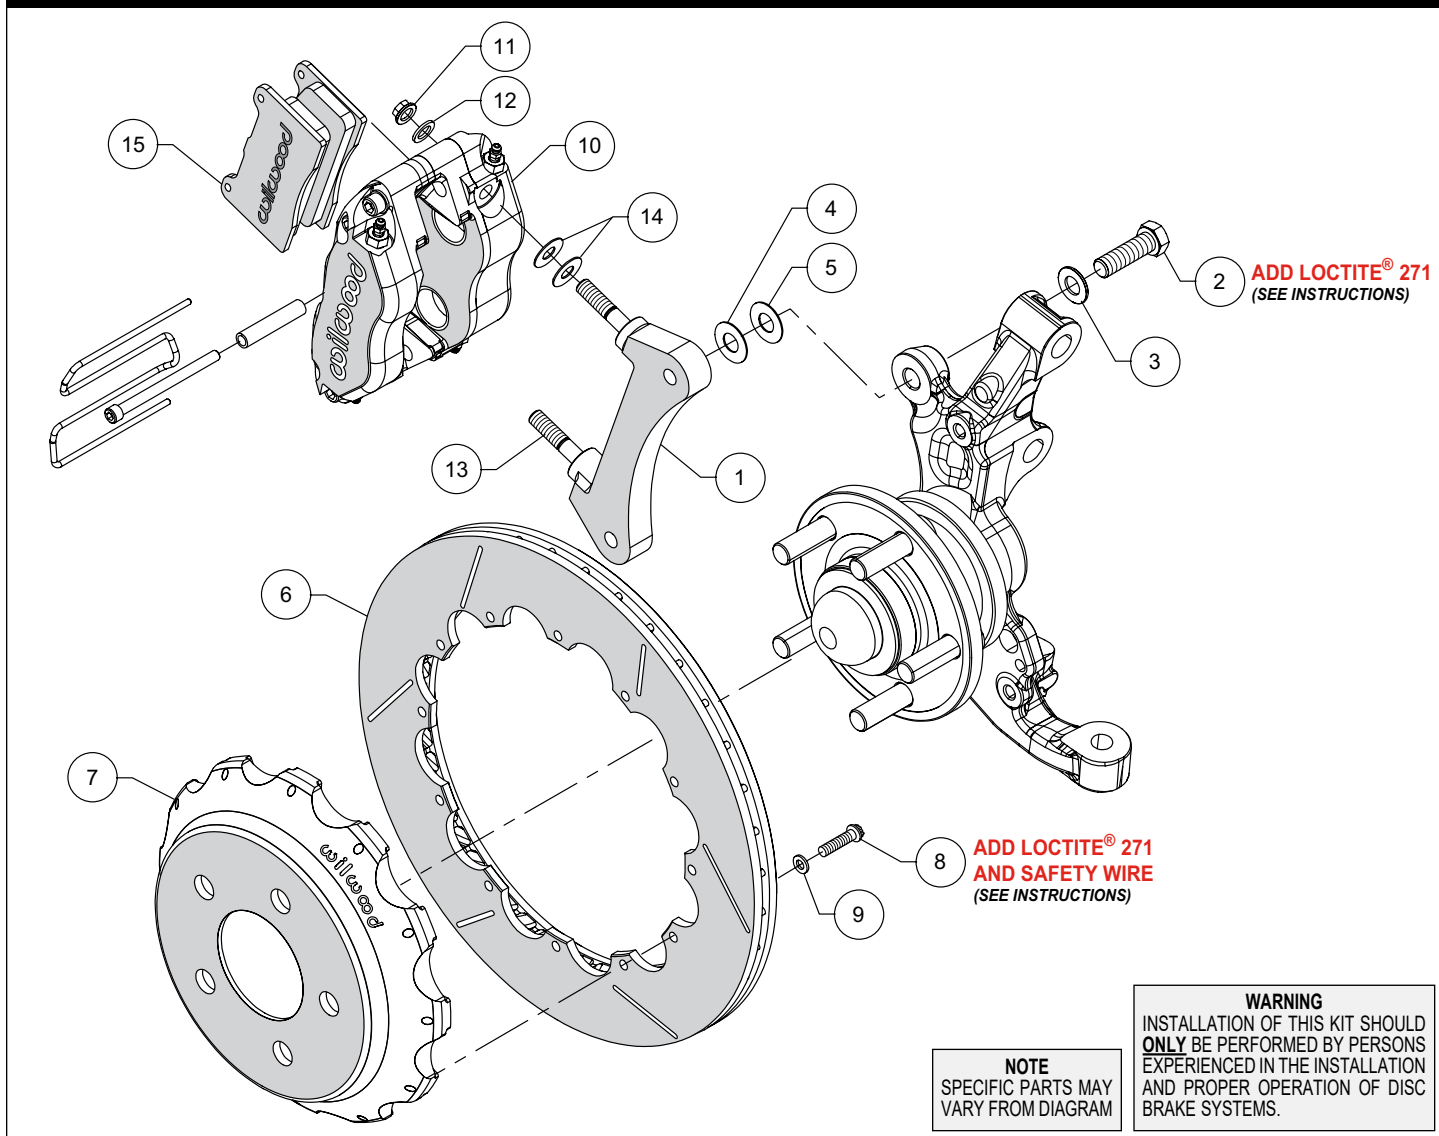
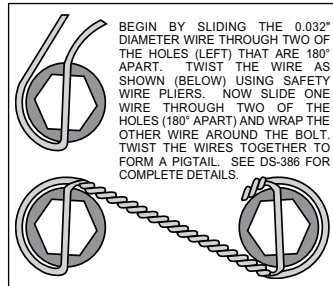

Figure 1. Typical Installation Configuration
Figure 3. Safety Wire Diagram
**NOTE:** Numbers in parenthesis refer to the parts list and Figure 1 on the preceding pages.
- The caliper mount bracket (1) should initially be installed with clean, dry threads on the mounting bolts. Orient the bracket, as shown in Figure 1 and Photo 1, and install using bolts (2) and washers (3). Initially place one .033" thick shim (4) on each bolt between the bracket and upright, Figure 1. Temporarily tighten the mounting bolts. **NOTE:** The bracket must fit squarely against the mount bosses on the upright. Inspect for interference from casting irregularities, machining ridges, burrs, etc. Later, after the caliper alignment has been checked, the mount bolts will be secured using red *Loctite*® 271.
- Orient the rotor (6) and the hat (7) as shown in Figure 1 and Photo 2. Attach rotor to hat using bolts (8) and washers (9). Apply red *Loctite*® 271 to the bolt threads and torque to 155 in-lbs using a criss-cross pattern. Safety wire the bolts using standard 0.032 inch diameter stainless steel safety wire as shown in Figure 3. Refer to Wilwood's data sheet DS-386 (available at [www.wilwood.com/Pdf/DataSheets/ds386.pdf](http://www.wilwood.com/Pdf/DataSheets/ds386.pdf)) for complete safety wire installation instructions.
- Initially place two .035" thick shims (14) on each stud (13) as shown in Figure 1 and Photo 4. Mount the caliper (10) onto the bracket (1) using lock nuts (11) and washers (12), Figure 1. Temporarily tighten the lock nuts and view the rotor through the top opening of the caliper. The rotor should be centered in the caliper, Photo 5. If not, adjust by adding or subtracting shims (4 and/or 5) between the bracket and the mounting bosses. Once the caliper alignment is correct, remove the bracket mounting bolts one at a time, apply red *Loctite*® 271 to the threads, and torque to 60 ft-lbs.
- Insert the brake pads (15) into the caliper with the friction material facing the rotor (6), as shown in Figure 1 and Photo 6. Check that the top of the brake pad is flush with the outside diameter of the rotor, Photo 7. If not, adjust by adding or subtracting shims (14) between the caliper and the bracket. After the caliper pad height is set, torque the caliper lock nuts (11) to 30 ft-lb. Secure the pads in place using the pad clip retainer as well as the center bridge pad retainer tube, bolt, and locknut, Photo 8. The locknut should be snug without play in the bolt or tube. Be cautious not to over tighten.